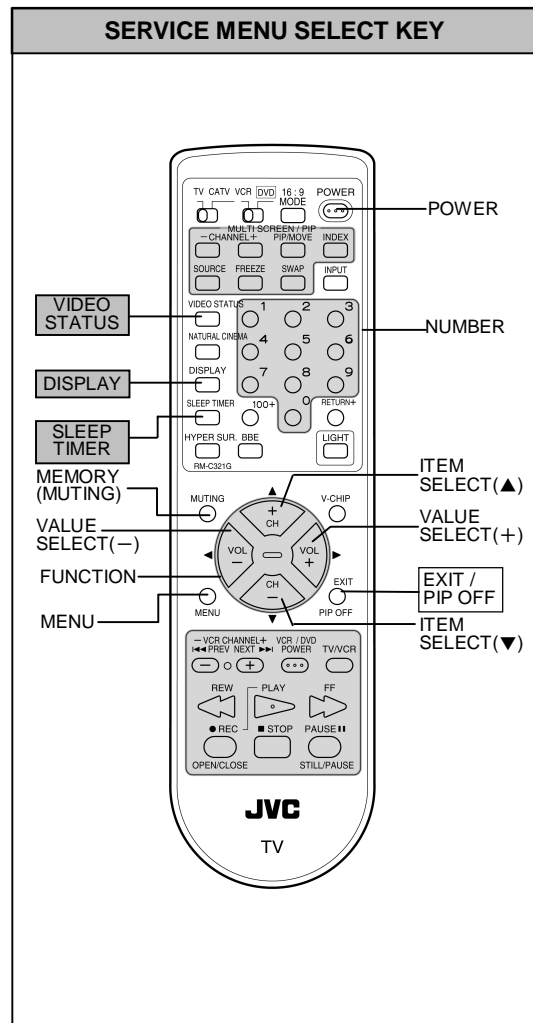

Fig.2
- 1) Press **SLEEP TIMER** key and, while the indication of **SLEEP TIMER 0 MIN** is being displayed, press **DISPLAY** key and **VIDEO STATUS** key on the remote control unit (Fig.2) simultaneously.